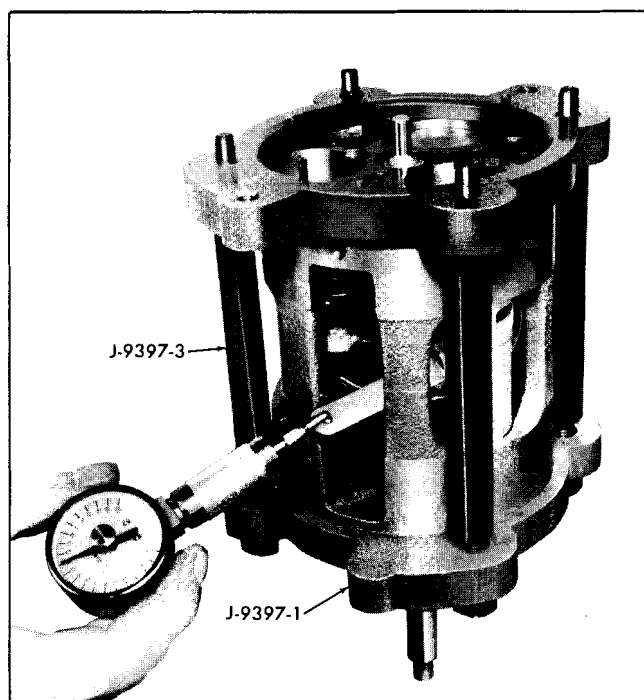

Fig. 1A-89 Measuring For Proper Shoe
- a. Use J 9661 gauge set, selecting a suitable feeler gauge leaf to result in a 4 to 8 oz. pull on the scale between ball and swash plate (Fig. 1A-89). If the pull is just less than 4 ozs., add .0005" to the thickness of the feeler stock used to measure the clearance. If the pull on the scale reads just over 8 ozs., then subtract .0005" from the thickness of the feeler stock. Select a shoe accordingly.